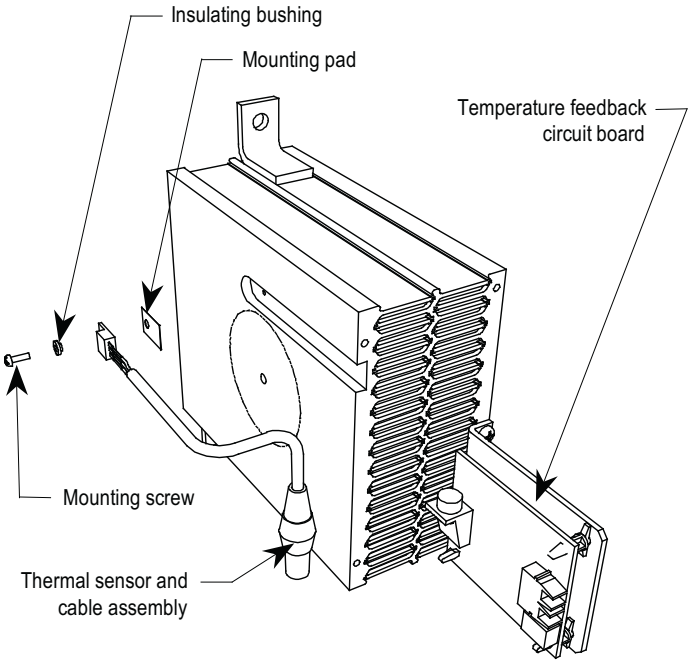

Figure 39 - Thermal sensor replacement (standard model)
10. Note the small voltage difference between the thermal sensor and its heatsink. For proper function, mount the small insulating pad between the thermal sensor and the heatsink, and the insulating bushing between the thermal sensor mounting screw and the thermal sensor (see Figure 39).